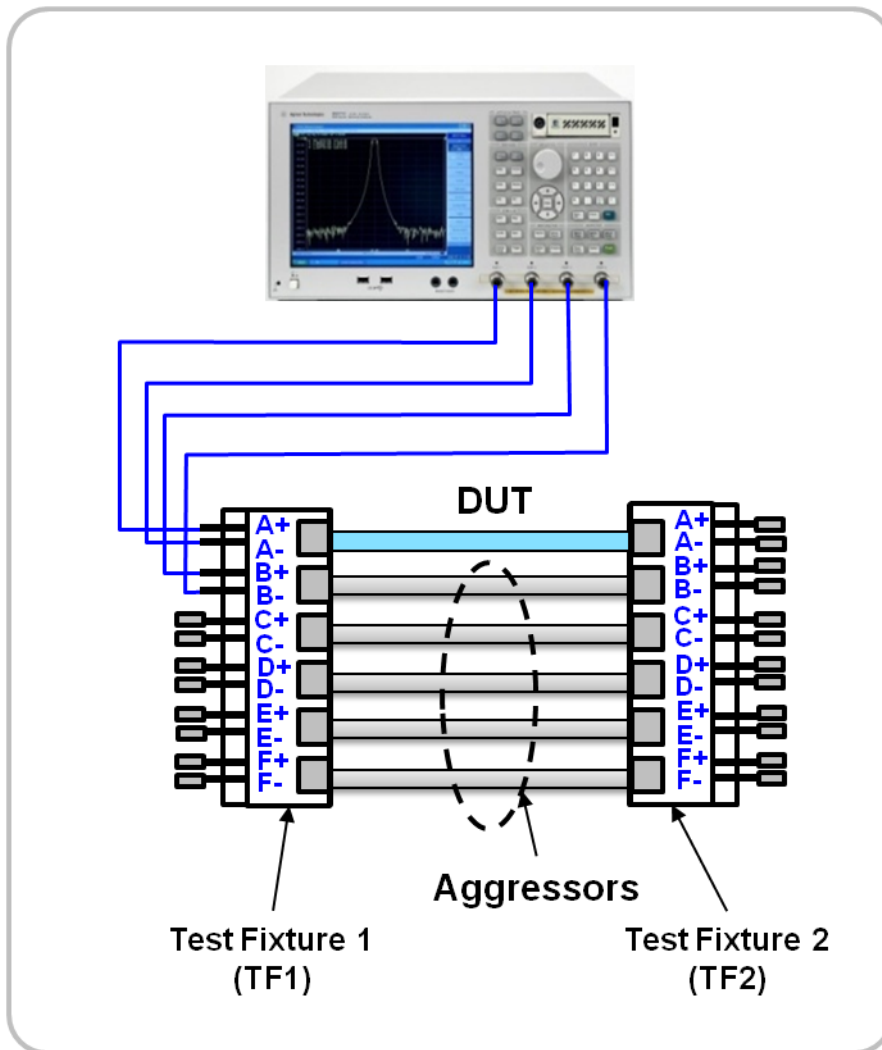

Figure 5-2 Power Sum Alien Near End Crosstalk (PSANEXT) Test Setup
1. Connect the DUT and aggressor cables to the ENA (Figure 5-2).